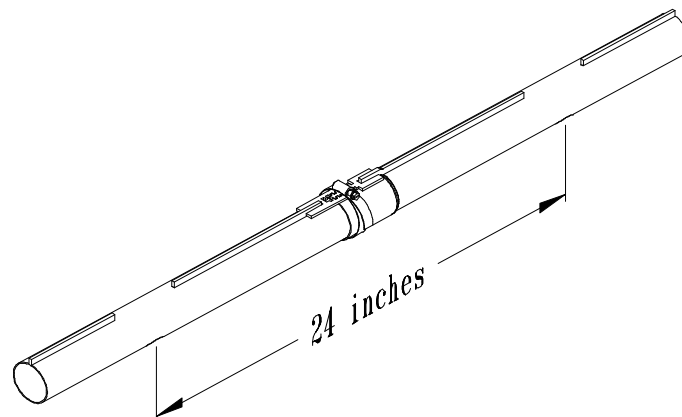

figure 2
- 3) Push this joint together until the 24 inch center to center hole dimension is maintained between first and last holes, as shown in figure 2.
- 4) Place the "H" and "Y" Spacers together so that their assembled length is just enough to fill the space between the ribs of both sections of Ribbed Tube, as shown in figure 2.